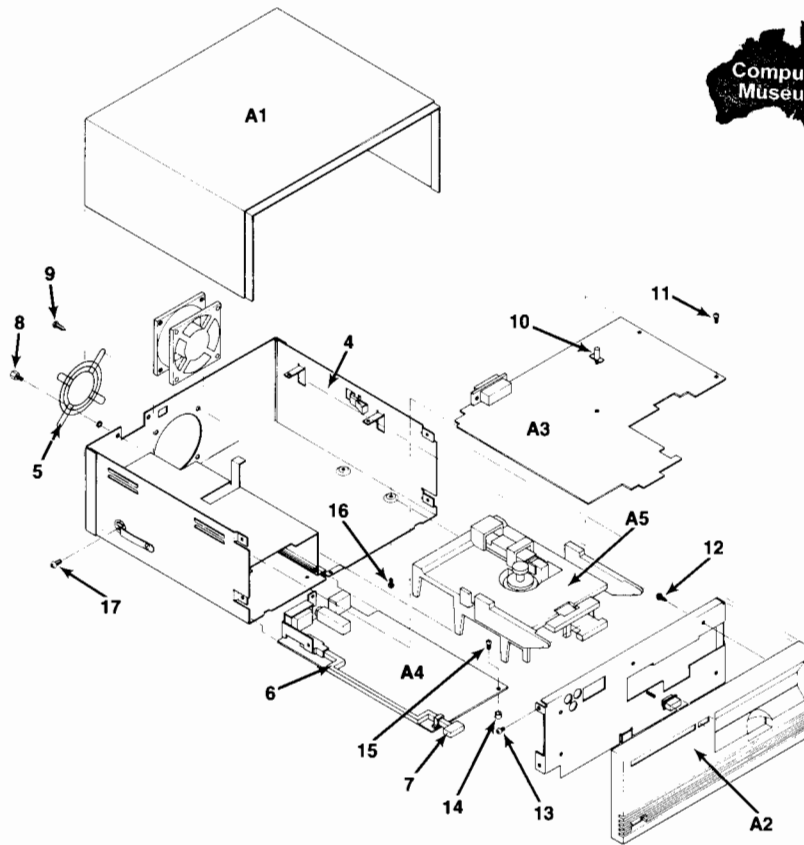
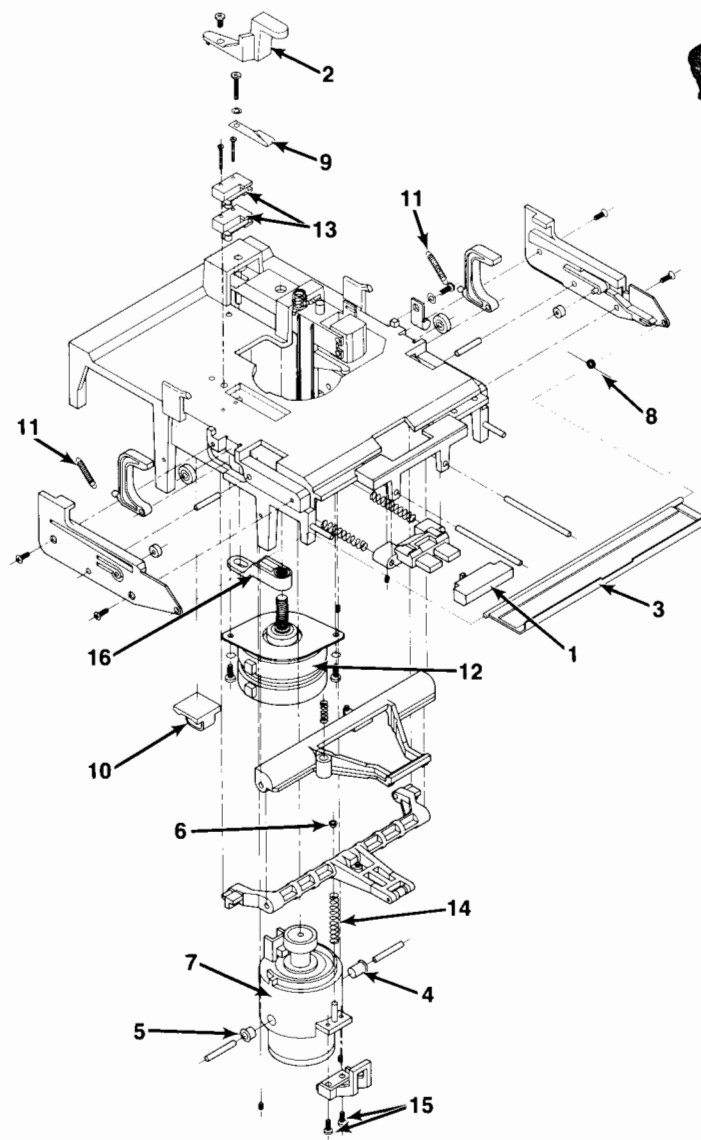

Figure 8-1. Field-Replaceable Assemblies.
Figure 8-2. Tape Drive Mechanism Exploded View.
4	Controller PCA (A3) or Drive Motor/Tachometer (7) (See Figure 8-1) (See Figure 8-2)
5	Head Stepper Motor (12) (See Figure 8-2)
An exploded view of the HP 9142A (Figure 8-1) and the Tape Drive Mechanism (Figure 8-2) is provided in this chapter. Items referenced on the figures are also referenced in the following subsections.
**Case Parts (Refer to Figure 8-1 for location)**
**Tape Drive Assembly (Refer to Figure 8-2 for location)**